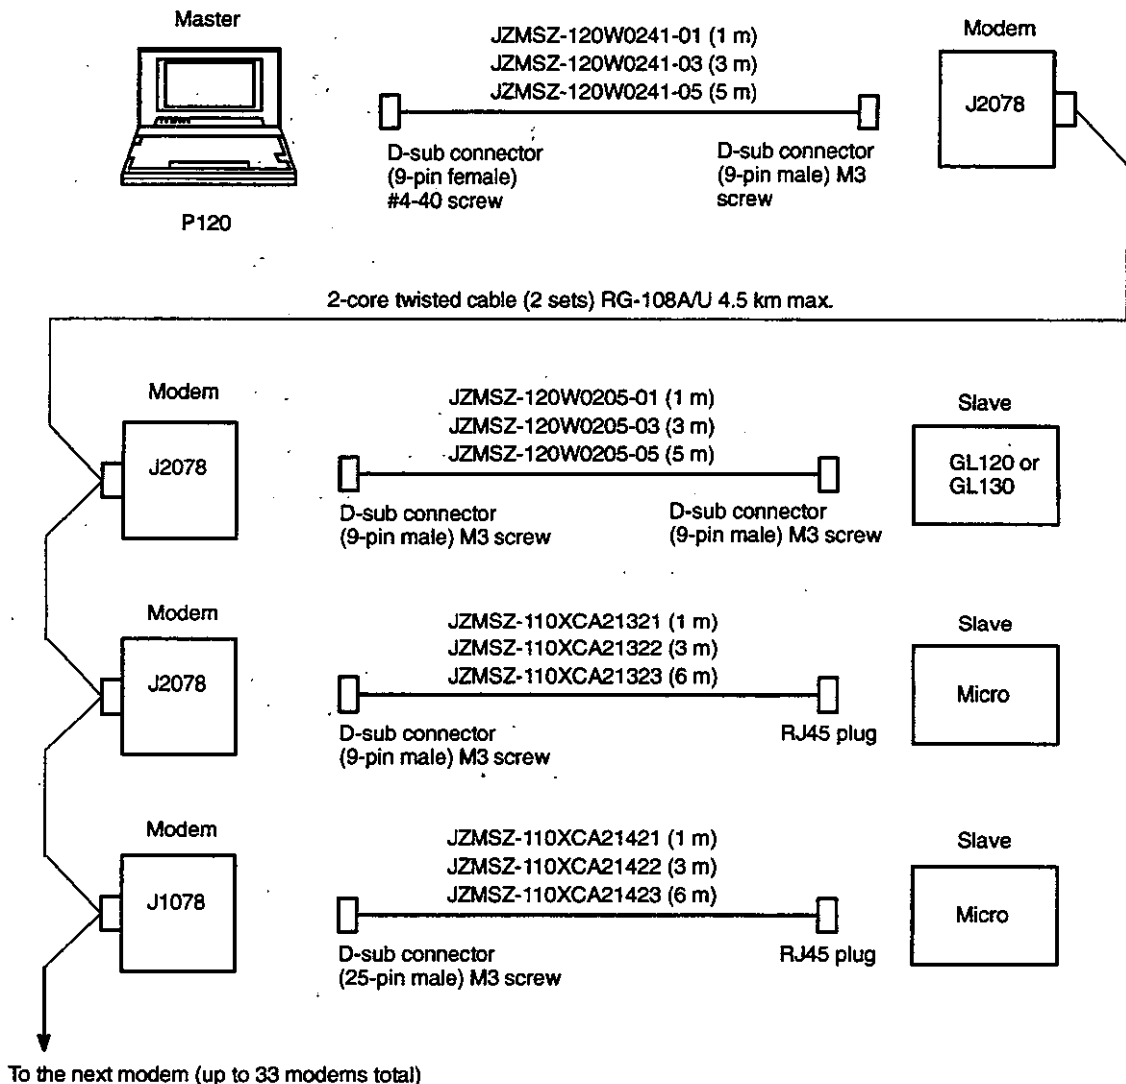

Figure 4.6 Programming Panel Master 1:N Configuration Connected by Modems
1) Figure 4.6 shows Programming Panel master configurations when a master and multiple slaves are connected by modems.